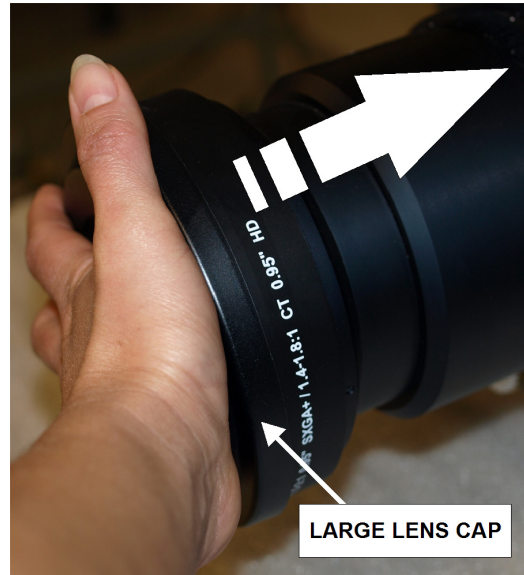

FIGURE 2-2 LENS PLACEMENT
- Align the lens interface plate with the lens mount. Align the lens electrical connector with the mating connector on the lens mount. Fully insert the assembly straight into the lens mount opening without turning. Press using your hand as shown in *Figure 2-2 Lens Placement*. **NOTE:** When installing the lens, ensure that the lens is not inserted at an angle, as this can cause damage.